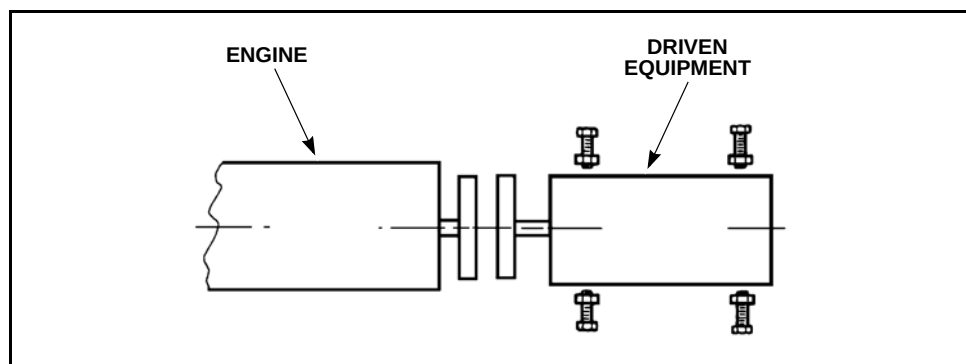

Figure 9-15 Correct Angular Alignment
5. Check angular alignment again using the same procedure as used previously. Angular alignment is correct when total indicator runout is less than 0.127 mm (0.005") per foot of radius from center of shaft to where the dial indicator reads (see Figure 9-15).